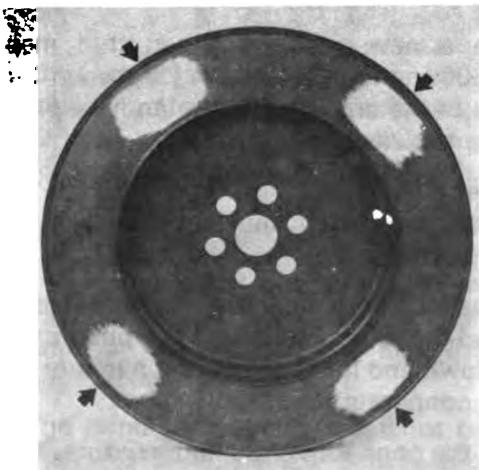

Fig. 1-55 (N101116). Remove Paint From The Damper.
3. Remove the paint from four areas on each side of the damper, Fig. 1-55. Use these areas to take measurements of the thickness of the damper.